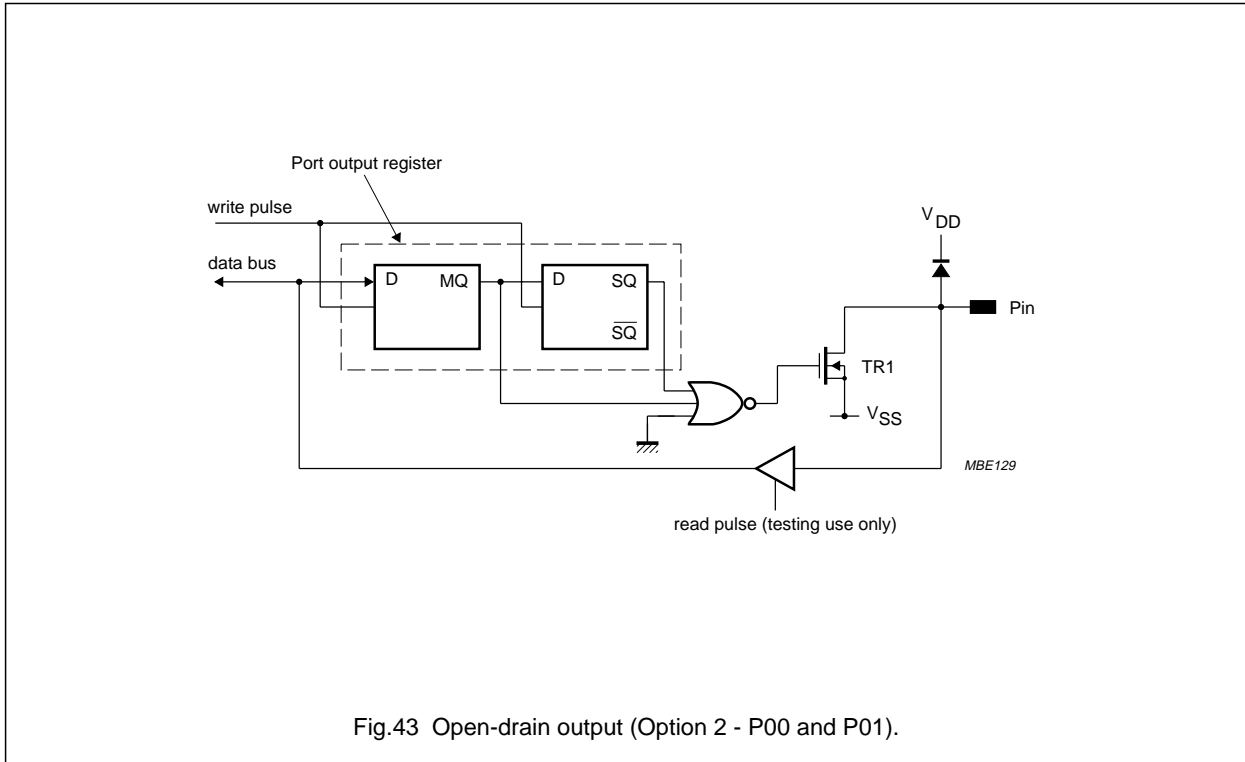

Fig.43 Open-drain output (Option 2 - P00 and P01).
- Option 2: Open drain output. See Figs 43 and 46.